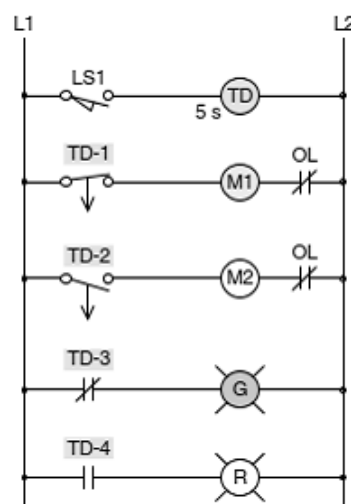

Figure Q4.
- (b) Figure Q4 shows how a hardwired off-delay timer relay circuit with both instantaneous and timed contacts. Describe the operation of the circuit.